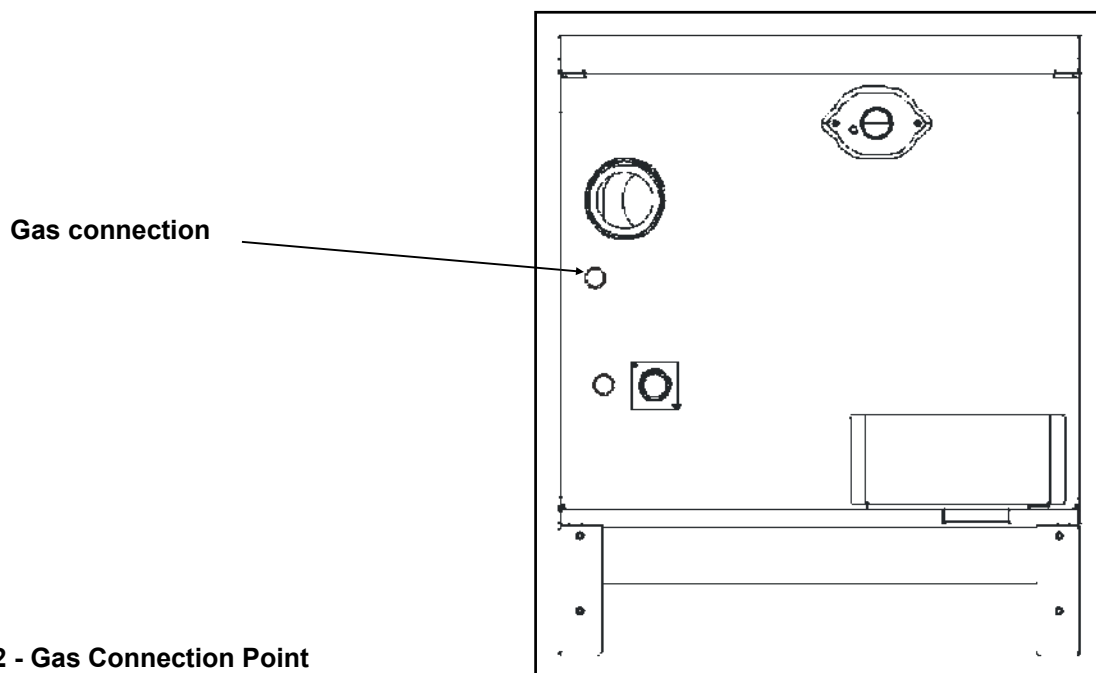

Figure 4.2 - Gas Connection Point
- Gas supply connections to the boiler must not be smaller than the connection on the boiler - refer to Figure 4.2 & Appendix 2 for the connection size.